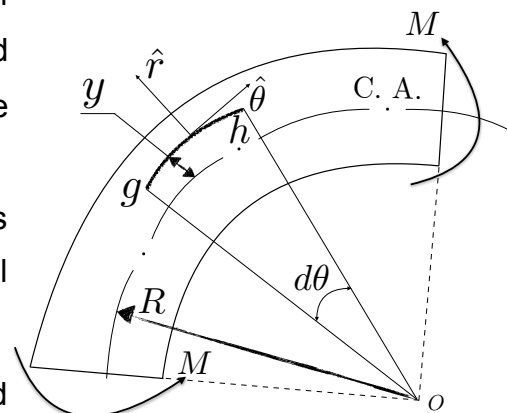

Figure 4: A Curved Beam in Pure Bending
6. The question will test your knowledge of stresses in curved beams. Consider the curved beam shown in Figure 4 acted on by the moment  $M$ .